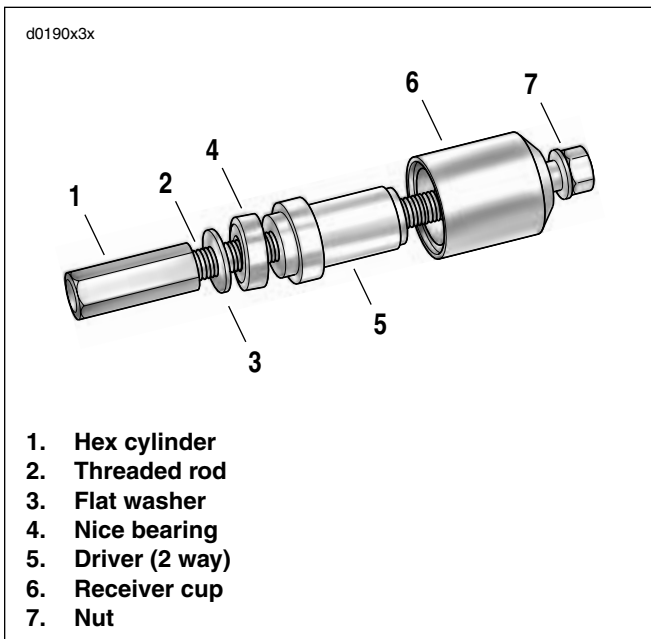

Figure 3-98. Connecting Rod Bushing Remover/Installer (Part No. HD-95970-32D)
2. See Figure 3-98. Attach PISTON PIN BUSHING TOOL (Part No. HD-95970-32D) to the connecting rod.